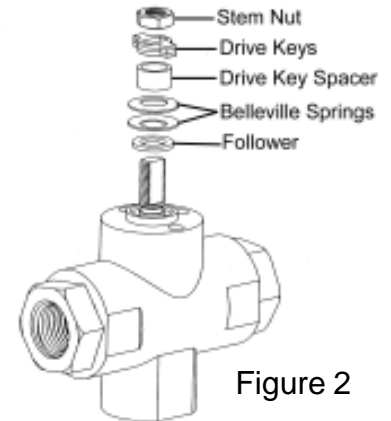

Figure 2
3. See Figure 2. Replace Belleville springs on stem with concave faces together. Place drive key spacer on stem atop Belleville springs. Place the (3) drive keys in position atop drive key spacer and secure finger tight with nut (stem nut) from kit. Note: earlier models may have had a single thick drive key.